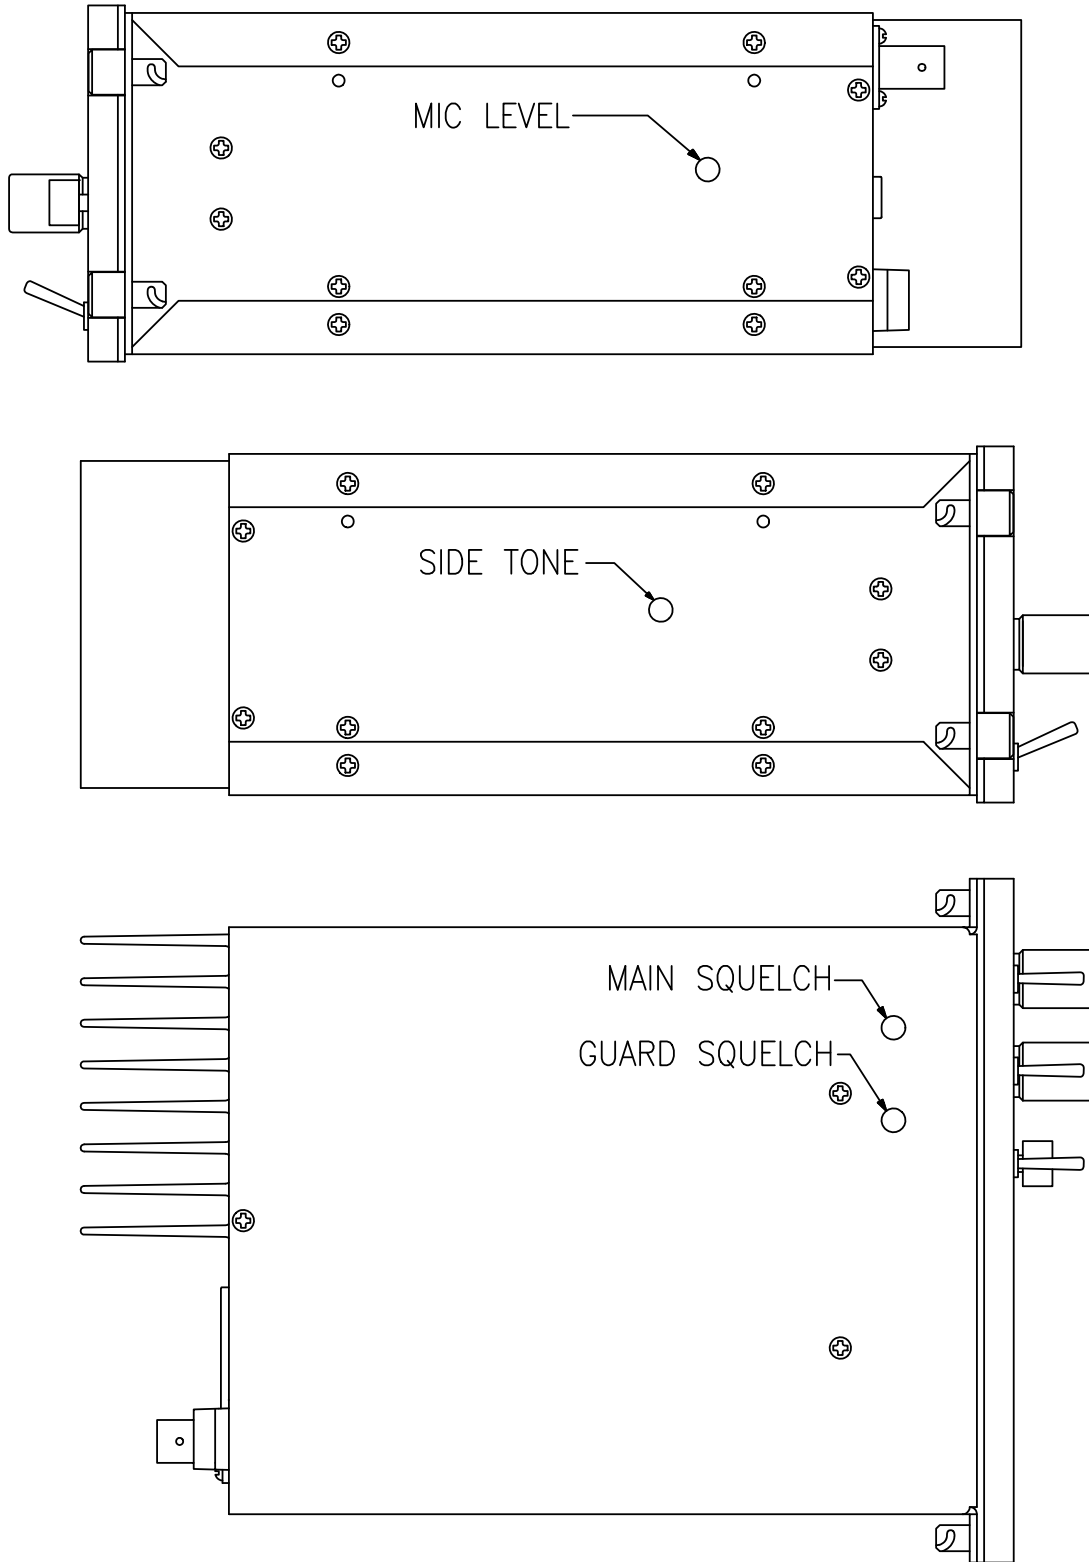

FIGURE 3-4 Microphone and Sidetone Level, Main and Guard Squelch Adjustment Access Holes
3. Adjust the microphone level potentiometer (R8 on MCU module) through the access hole located on the right side of the chassis (see Figure 3-4) to produce a 3.5 KHz deviation.
3. Adjust the sidetone level potentiometer (R37 on MCU module) through the access hole located on the left side of the chassis (see Figure 3-4) to produce a +3.0 dBm (1.0 VRMS) 600 ohm audio output.
3. If not, re-adjust main receiver squelch potentiometer, R3 through the access hole located on the bottom of the transceiver chassis (see Figure 3-4).
4. Repeat the above procedure to adjust the guard receiver squelch setting using guard receiver squelch adjustment potentiometer, R4 (see Figure 3-4).